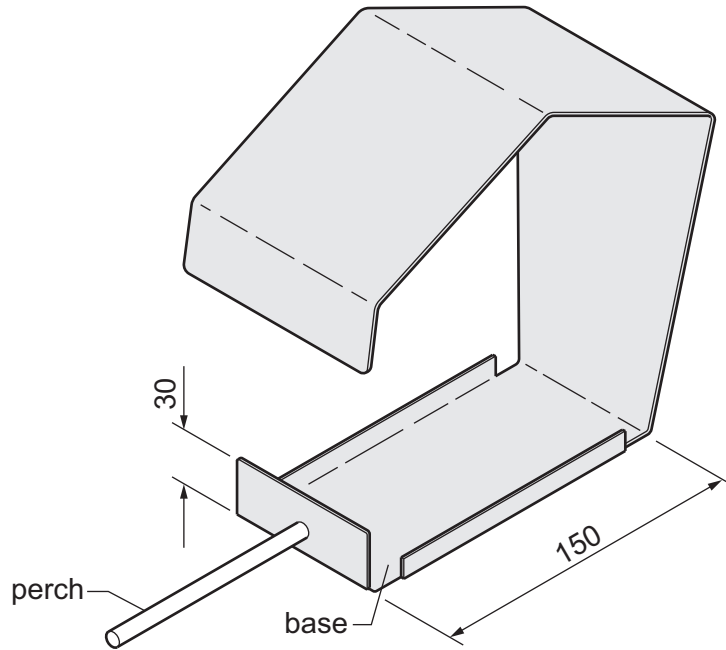

Fig. 12.1
12 Fig. 12.1 shows an incomplete design for a bird feeder made from 1.5 mm thick mild steel sheet.
- (iii) Use sketches and notes to show how the development (net) could be bent to the shape of the bird feeder shown in Fig. 12.1.